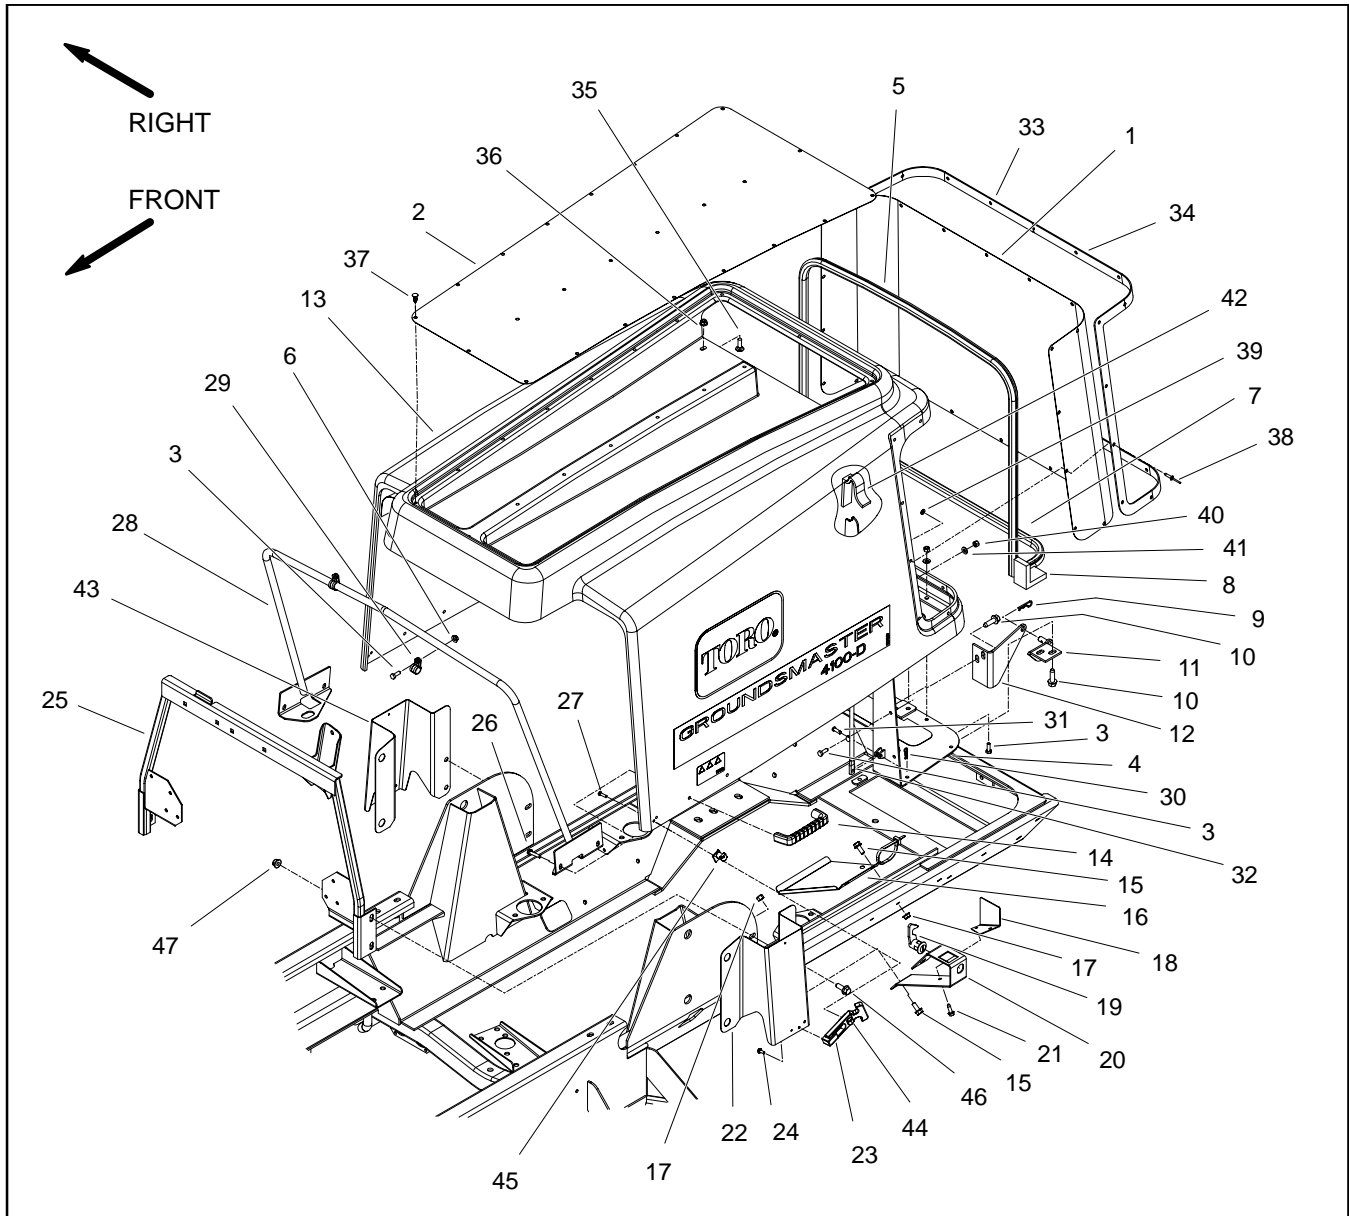

Figure 11
2. Remove hood using Figure 11 as a guide.
1. Install hood using Figure 11 as a guide.